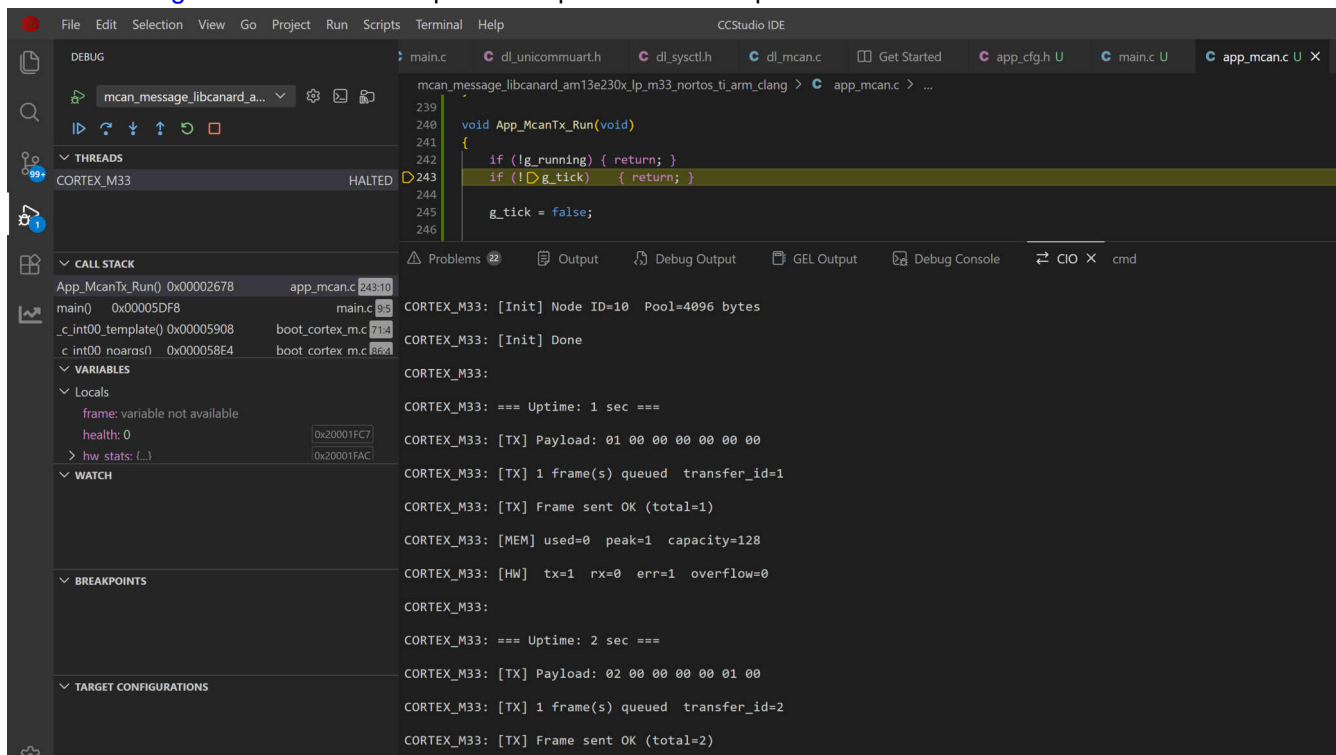

Figure 5-2. TX Console Log Output
- v. Figure 5-2 shows the expected output for this example.